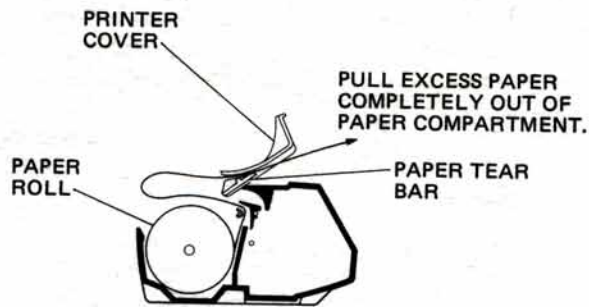
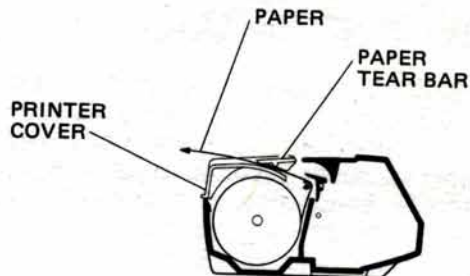

Figure 2-7 Insert Paper between Printer Cover and Paper Tear Bar
Figure 2-8 Close Printer Cover
7. Guide the paper back towards the front of the printer. Feed the end of the paper into the slot between the paper tear bar and the printer cover, as shown in Figure 2-7. Pull the excess paper completely out of the paper compartment and close the printer cover. The paper should exit from under the paper tear bar towards the rear of the printer, as shown in Figure 2-8. Tear off the excess paper.